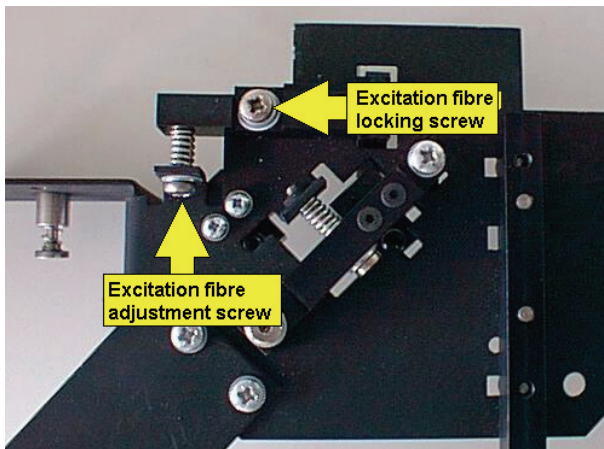
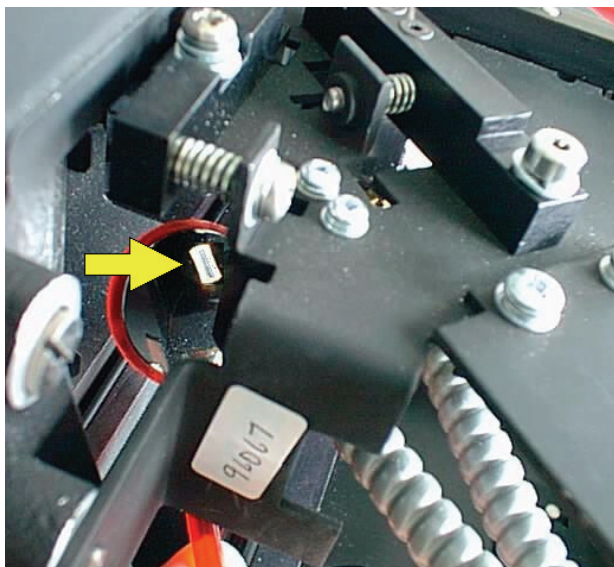

Figure 62 Excitation fibre screws
Figure 63 The end of the fibre bundle as seen in the dentist's mirror
11. Loosen the excitation fibre locking screw, as shown in Figure 62.
12. Rotate the mirror via the adjustment screw, as shown in Figure 62, until the light image is centralized on the fibre bundle, as shown in Figure 63.